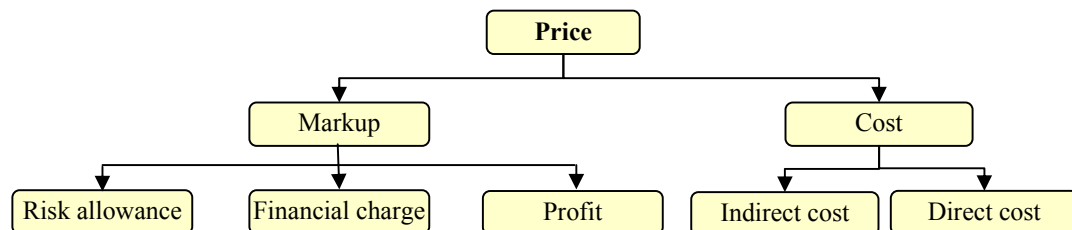

Figure 9.17: Components of a tender price
The total price of a tender comprises the cost and the markup. The cost includes direct and indirect costs. The markup, on the other hand, includes profit margin, financial charges (cost of borrowing), and a risk allowance margin (Figure 9.17). Estimating activities direct costs presented previously in chapter 3. Estimating indirect costs presented earlier in this chapter.
- Estimating a single percentage markup to be added to the total cost. It is assumed that this percentage will cover all the components of markup as shown in Figure 9.17; and